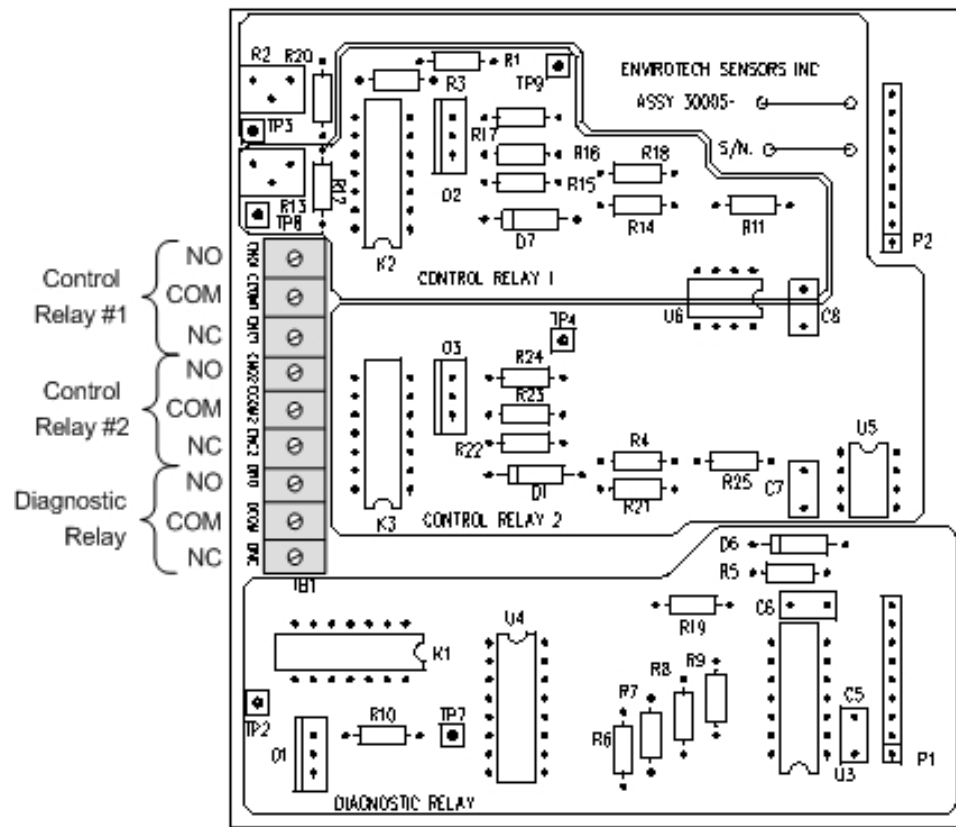

Figure 2.3.3-1 3-Relay Output Signal Connections
3. For the control relay #1 option (Sensor P/N SVS1-x-C), strip ~6 mm (1/4") of insulation from each of the conductors and connect them to TB1 using the information in Table 2.3.3-1 and Figure 2.3.3-1. Note that the terminals marked with a "C" prefix refer to the control relay output.
4. For the control relay #2 option (Sensor P/N SVS1-x-E), strip ~6 mm (1/4") of insulation from each of the conductors and connect them to TB1 using the information in Table 2.3.3-2 and Figure 2.3.3-1. Note that the terminals marked with a "C" prefix refer to the control relay output.
5. For the diagnostic relay option (Sensor P/N SVS1-x-D, strip ~6 mm (1/4") of insulation from each of the conductors and connect them to TB1 using the information in Table 2.3.3-3 and Figure 2.3.3-1. Note that the terminals marked with a "D" prefix refer to the diagnostic relay output.